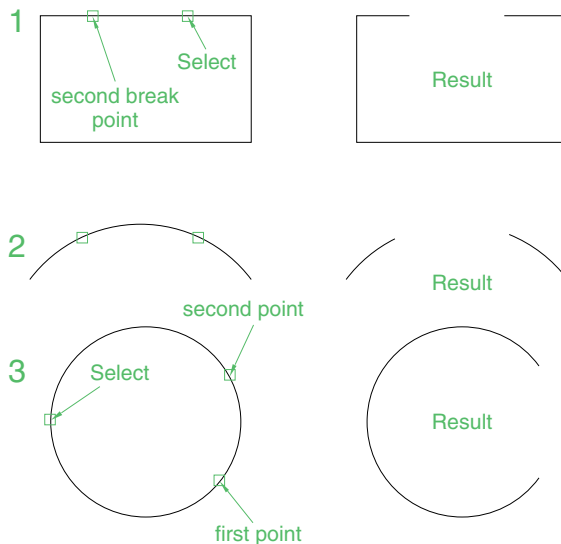

Fig. 5.36 Examples – **Break**
Examples – Break (Fig. 5.36)
1. Construct the rectangle, arc and circle shown in Fig. 5.36.
The results are shown in Fig. 5.36.